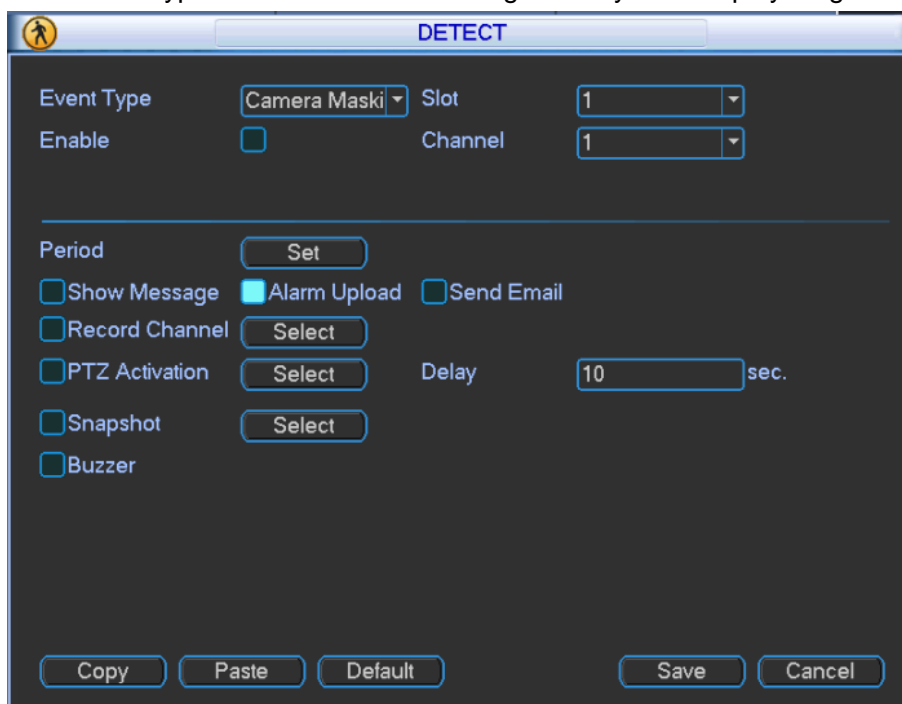

Figure 3-58
Step 1 Select "Event Type" to be "Camera Masking". The system displays Figure 3-58.